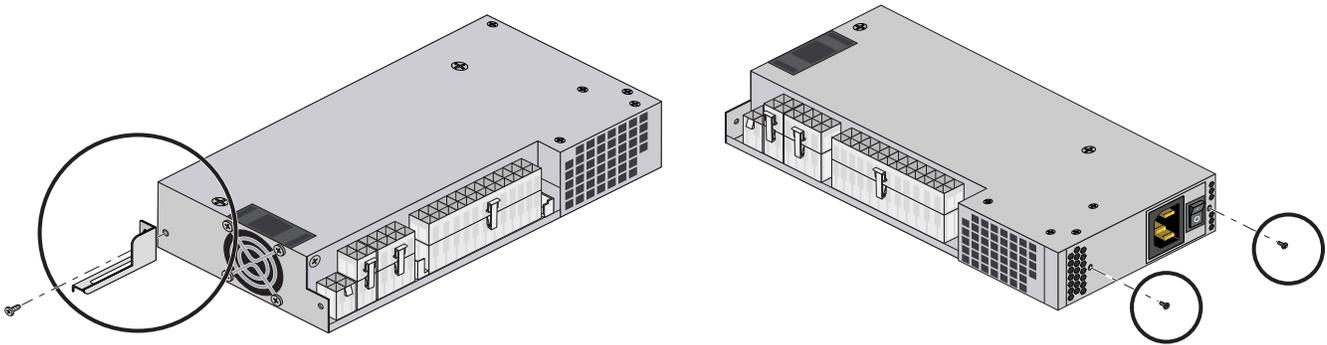

Figure 4-11 450-Watt Power Supply Replacement Example
2. Use the three screws you removed in step 4 of the instructions “Removing the 450-Watt Non-Redundant Power Supply” on page 38 to secure the unit inside the server. See Figure 4-11.